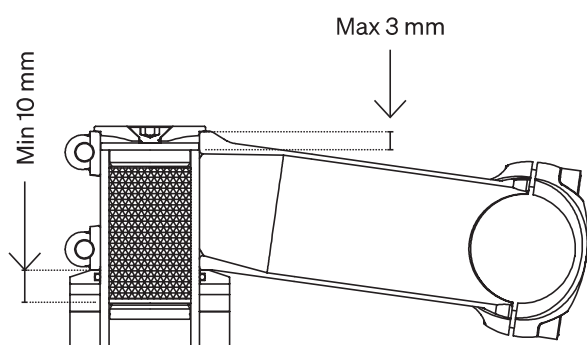

Fig. 5.2.1
- 1 • The expander must have a length enough to completely cover the stem clamp area and to exceed for at least 10mm the stem clamp height (Fig. 5.2.1);
- 2 • To allow the headset adjustment, the gap between the upper edge of the stem and the upper edge of the fork steerer must not exceed the value of 3mm (Fig. 5.2.1);